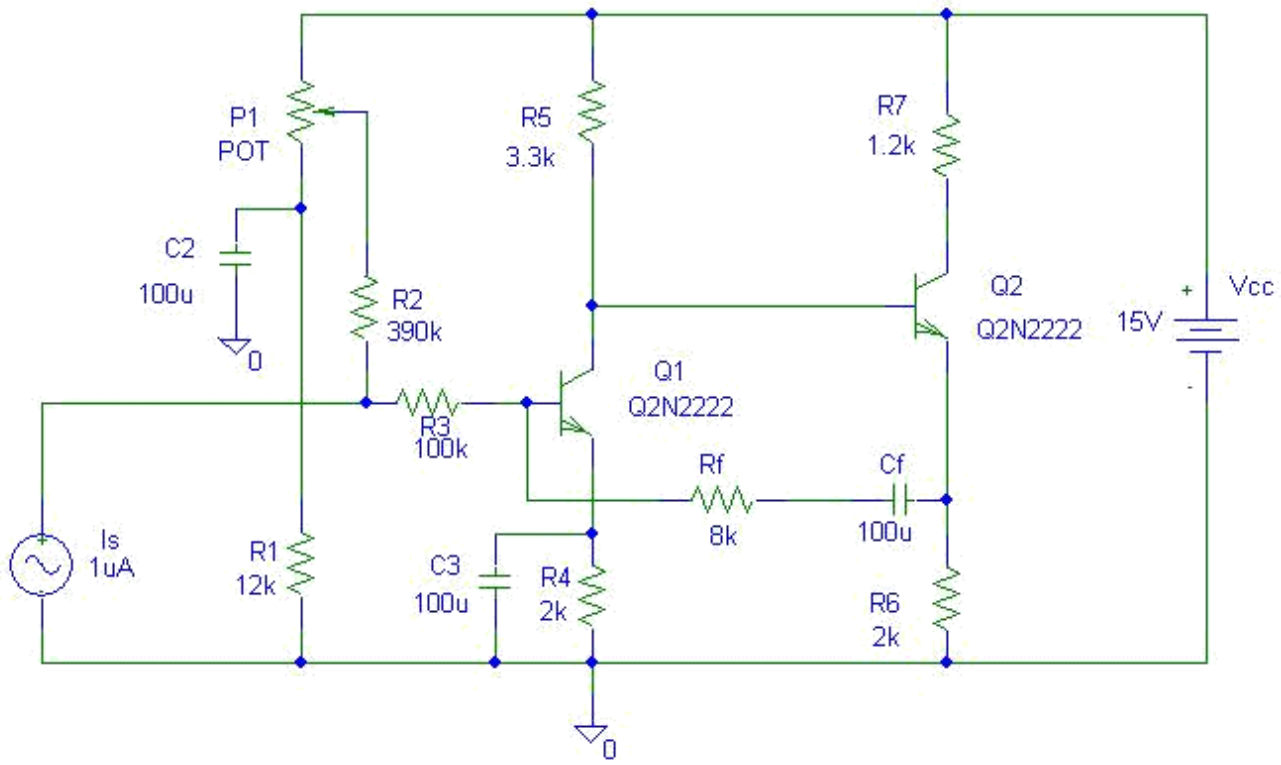

Fig 3. Transimpedance amplifier circuit with a shunt-shunt negative feedback
3.3. Draw the circuit corresponding to the transimpedance amplifier (Figure 3) using the *Schematics* utility.